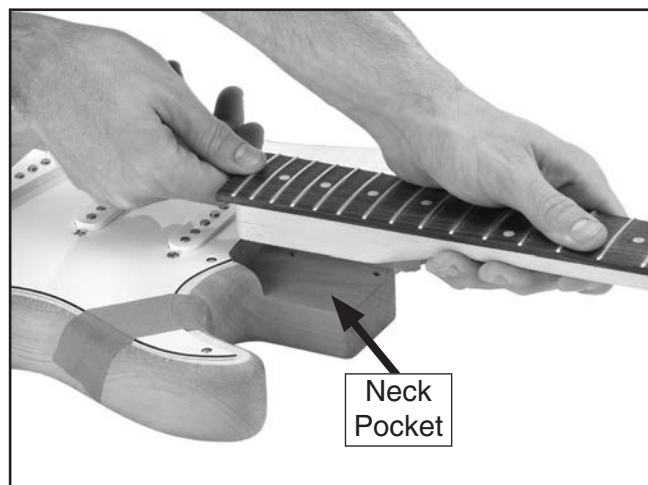

Figure 17. Inserting neck into neck pocket.
1. Insert the neck into the neck pocket (in **Figure 17**), and check to make sure the neck and body are flush.